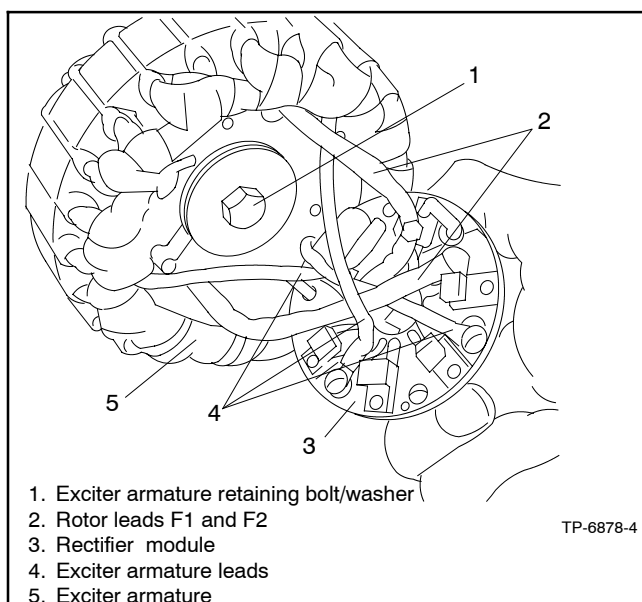

Figure 4-18 Exciter Armature and Rectifier Module
12. Bring the rotor leads F1 and F2 through the open spaces in the exciter armature windings while installing the exciter armature on the shaft. Check the keyway of the shaft and key of the exciter armature for damage. Install the exciter armature retaining bolt and washer and torque to specifications. See Figure 4-18.